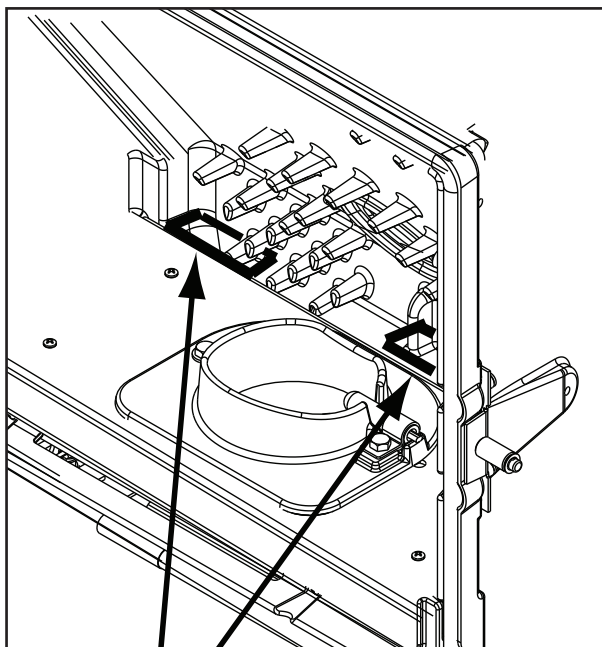

Figure 26.2
- d. Use the crevice tool to finish cleaning the heat exchanger fins. It is critical that the 2 exhaust exits at the back of the firebox floor (left and right) be thoroughly cleaned. **Figure 26.2.** There are several ways this can be done.